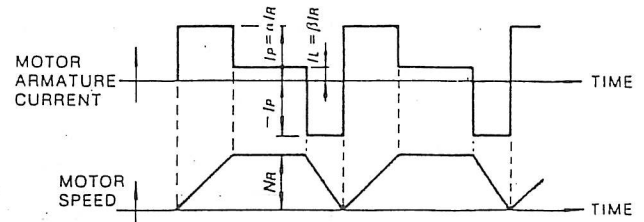

Fig. 4.6 Timing Chart of Motor Armature Current and Speed
- When the motor accelerates, runs at constant speed, and decelerates in a continuing cycle without being at standstill (Fig. 4.6).
The timing chart of the motor armature current and speed is as shown in Fig.4.6. The allowable frequency of operation "n" can be calculated as follows.